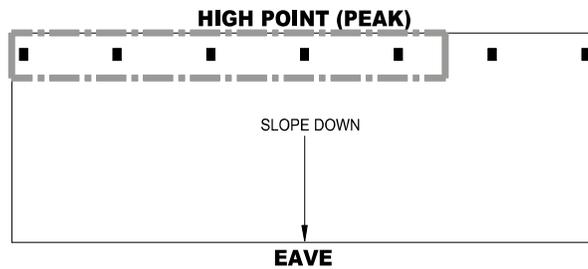

FIGURE 22A
- Calculate the most hydraulically demanding 5 contiguous DS sprinklers. See Figure 22A.